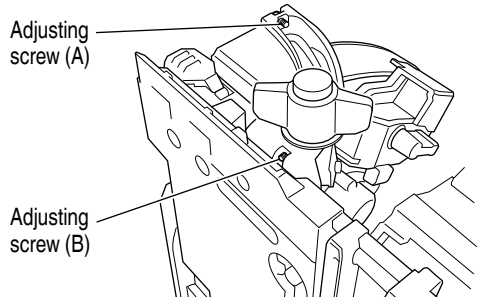

Fig. 19
**The saw blade angle has been adjusted at the factory. (Fig. 19)**